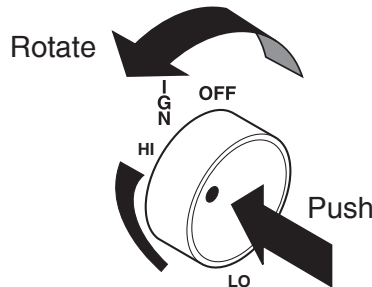

Figure 37 - HIGH Position
10. Push in control knob and turn counterclockwise to the HIGH setting. At this location the control knob will pop out when positioned correctly. The knob can now be positioned at any position between HIGH and LOW. See Figures 37 and 38.